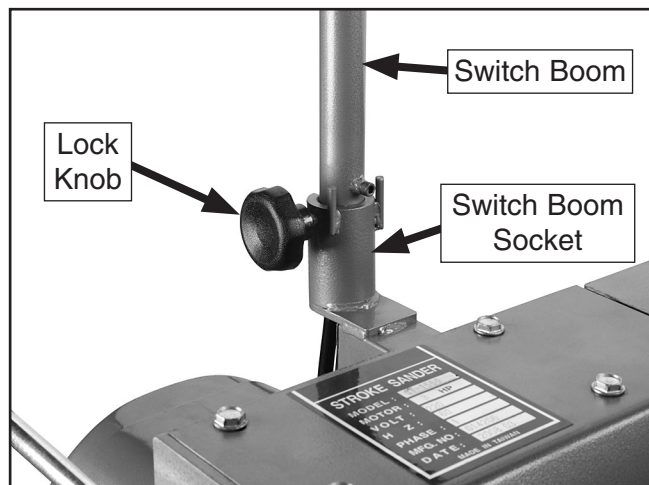

Figure 23. Switch boom.
- Place the switch boom into the switch boom socket and secure with the lock knob, as shown in **Figure 23**.